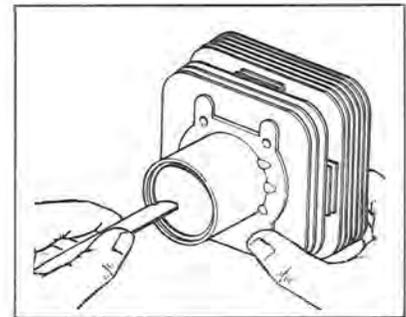

Figure 8-12
- c. Before installing new piston rings, check gap between ends of ring by placing ring in its respective cylinder bore (see Figure 8-12). Press ring down in bore slightly with bottom of piston to square it up. Discard and replace with new ring if gap is excessive (see Section 11, Specifications).